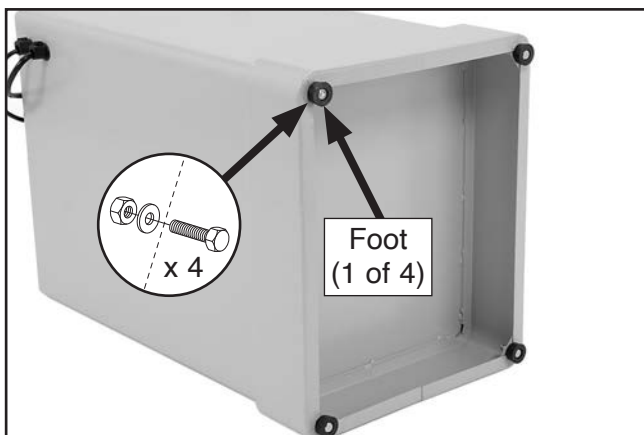

Figure 23. Feet installed onto bottom of cabinet.
13. Fasten each foot with a $\frac{5}{16}$ "-18 hex nut and $\frac{5}{16}$ " flat washer (see **Figure 23**).